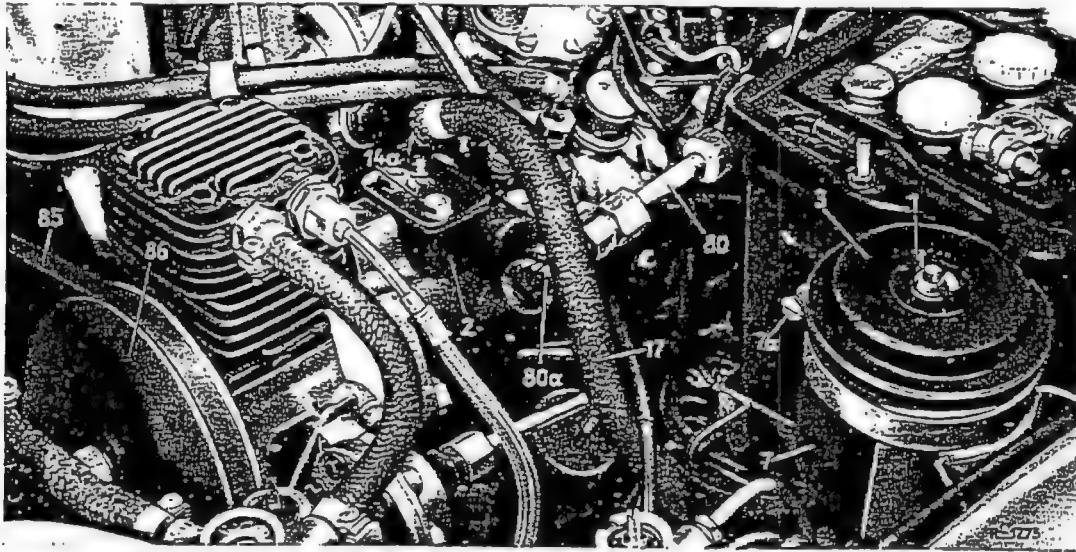

Fig. 46-21/3
In order to re-adjust the V-belt (85) loosen the three hexagon screws attaching the high-pressure oil pump to the support, then tighten the hexagon nuts on the clamping screw (84) until the prescribed tension of the V-belt is obtained. Then re-tighten the hexagon screws (Figs. 46-21/1 and 46-21/2).